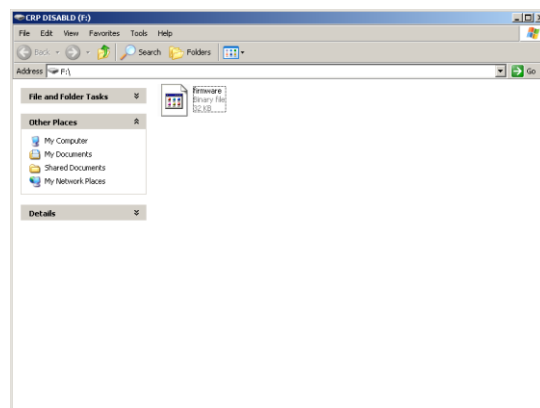

Figure 3: New disk drive.
Step 4: New disk drive will appear with the “firmware.bin” file on it (figure 3). Delete this file and copy latest firmware file to this disk drive. When copying is finished, you can disconnect the cable from your module. Turn module OFF and ON again. Update is finished.